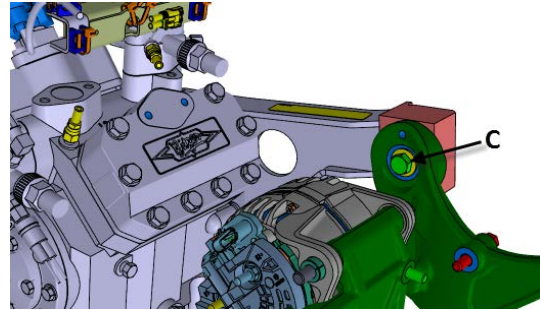

FIGURE 25
33. Snug bolts **C** & **E** (FIGURE 24 & FIGURE 25).